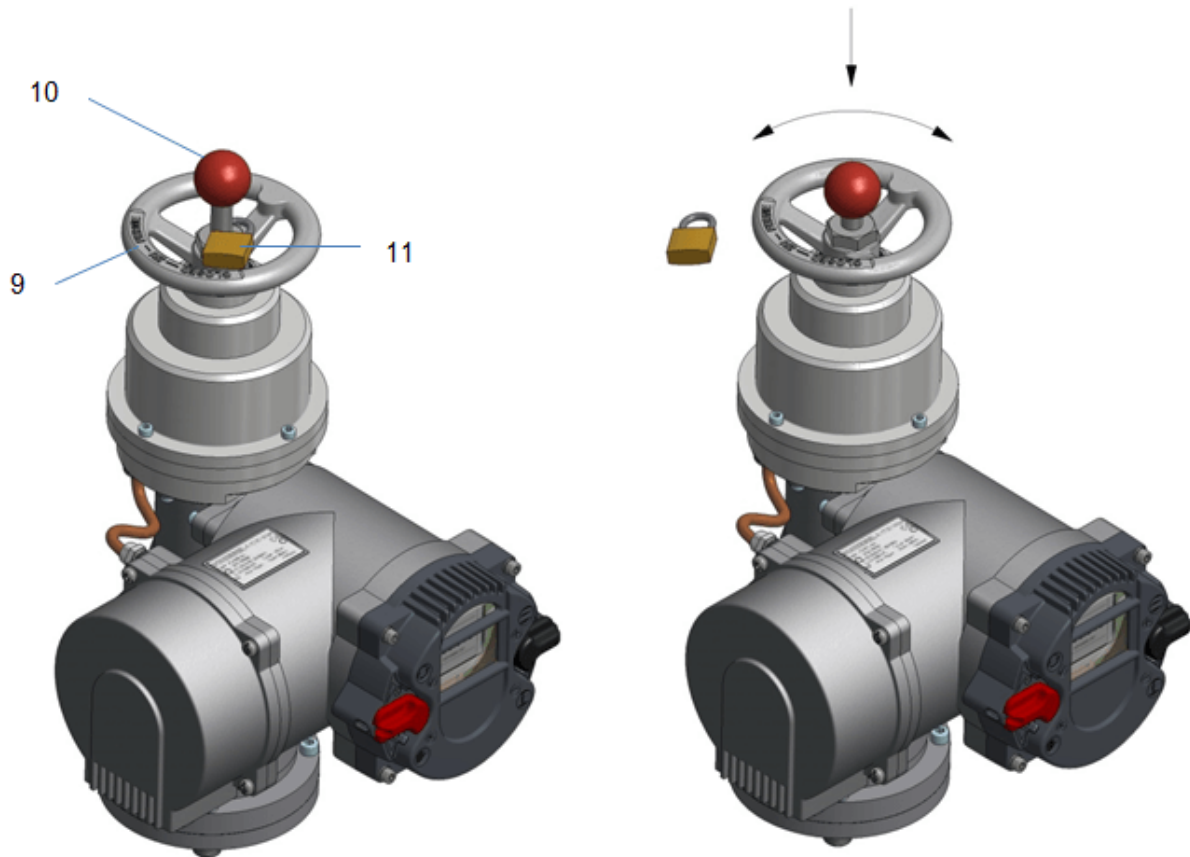

Figure 4: 9... Handwheel, 10... shift rod, 11... padlock
NOTE: By activating the manual drive the electrical function of the drive is disabled. In normal operation, the hand wheel (item (9) on figure 4, page 16) has no effect, it rotates idly by.